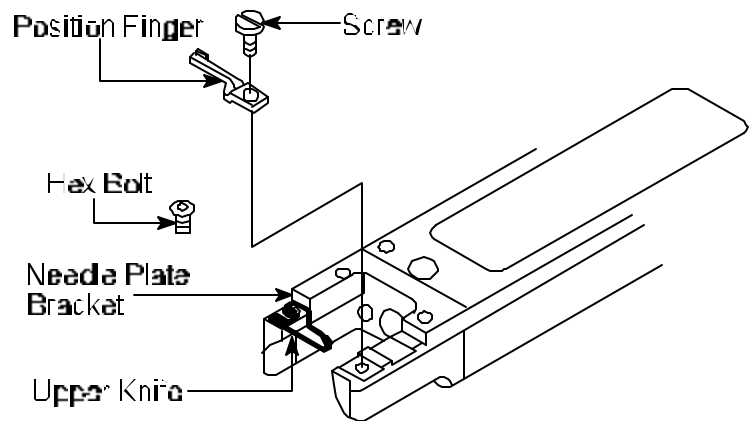

Figure 4
49. **Upper Knife** rests on Position Finger and back rests flush against Needle Plate Bracket (MK 4 trimmer only apply). See Figure 4.